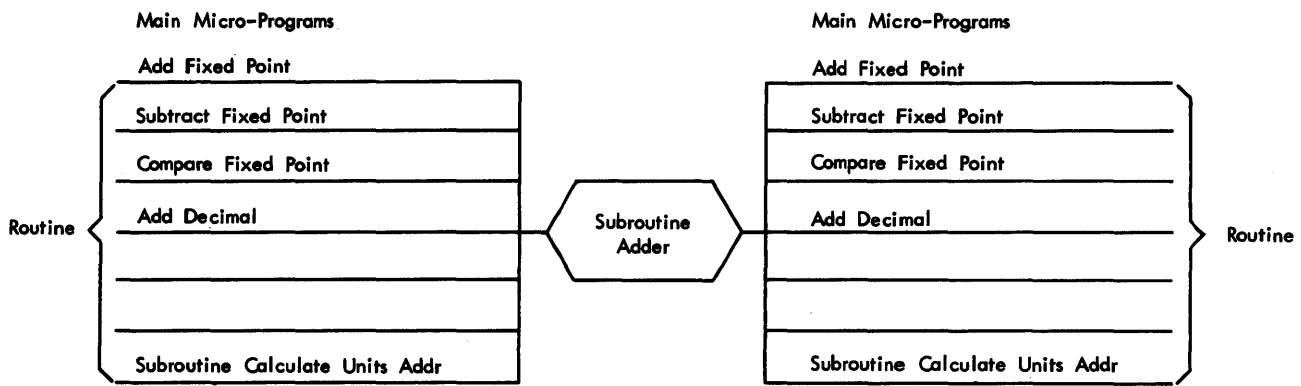

Figure 3-18 Principle of Using a Subroutine
- A Subroutine is entered from various main micro-programs and branches back into the same main micro-program from which the subroutine is entered (Figures 3-18 and 3-19).